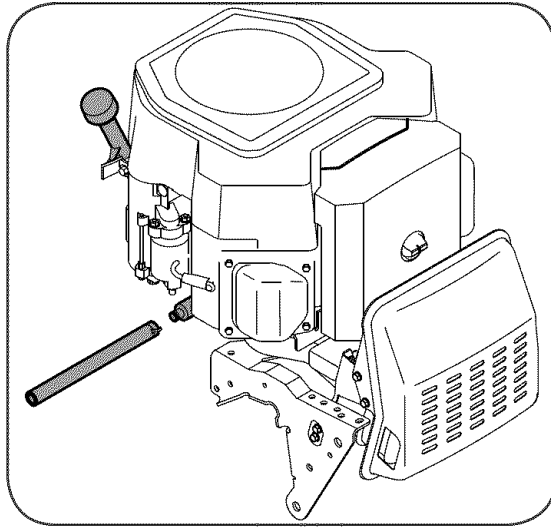

Figure 13
1. Pop open the protective cap on the end of the oil drain valve to expose the drain port. See Figure 13.